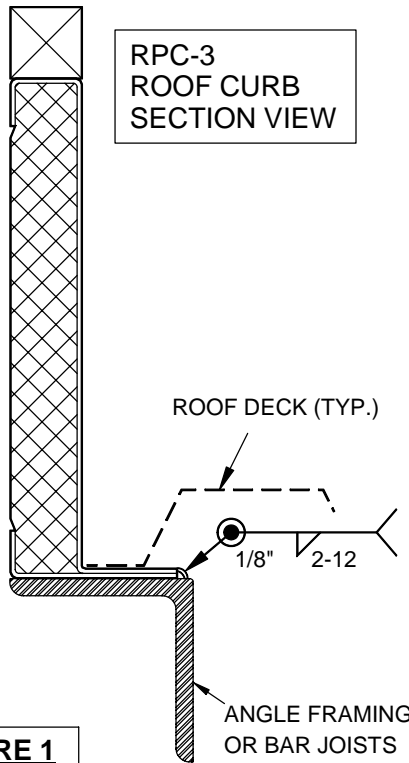

FIGURE 1
1. Attachment details when roof curb is directly attached to the structure. (fig. 1, 2, 3 & 4)